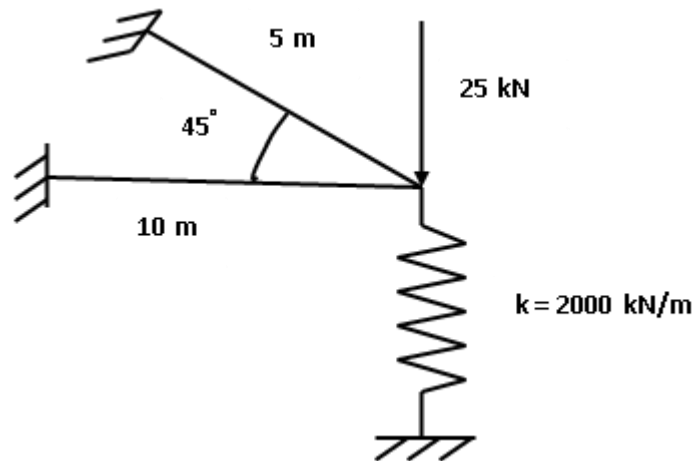

Fig. Q. 2b
2. a) Obtain the shape functions of a beam element in X-Y plane. (04)
- b) Evaluate the unknown displacements and element stresses for the plane truss shown in **Fig. Q. 2b**. Let $E = 200 \text{ GPa}$ and $A = 4 \times 10^{-4} \text{ m}^2$ for all the elements as per their relevance. (06)